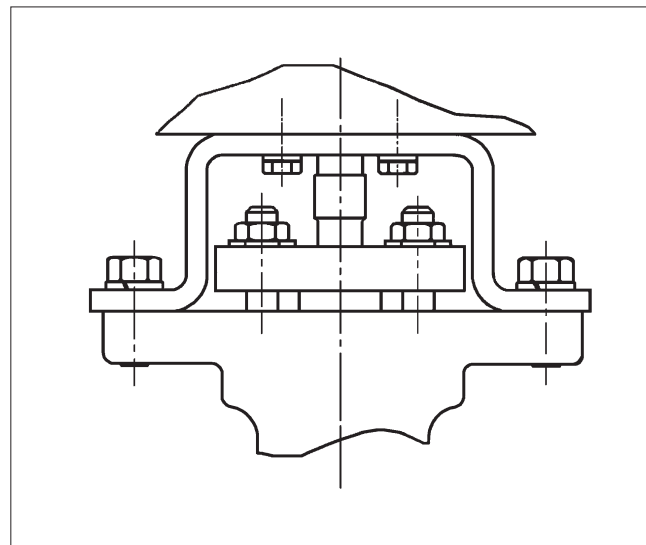

Figure 11.
4. Lower actuator and bracket onto valve while engaging actuator stem driver into coupling. Tighten screws just enough to firmly mate bracket to valve. This should allow bracket to shift, allowing the coupling to align the valve and actuator shafts (See **Figure 11, Step 3A**).
5. Tighten the no-play coupling screws to torques shown in **(Figure 11, Step 3B)**. Use alternating sequence shown.
7. Fully tighten the screws holding the bracket to the valve, as shown in **(Figure 11, Step 3C)**.
8. Recheck no-play coupling screw torques, using the torques in **(Figure 11, Step 3B)**. Use alternating sequence shown.